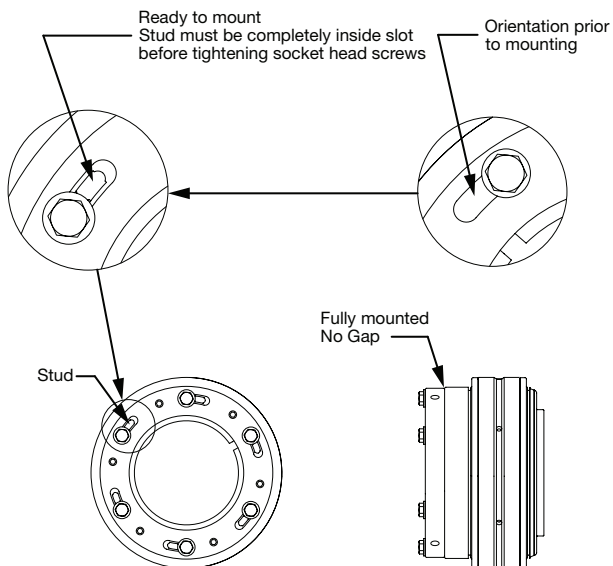
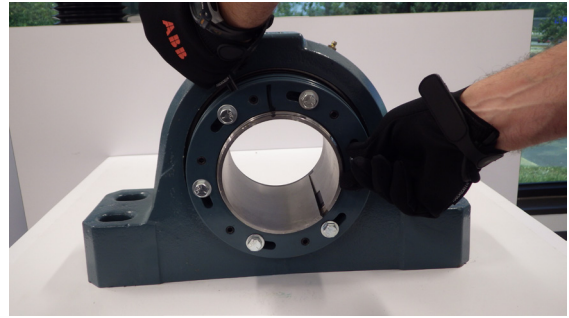

Figure 3 - Nut rotated and ready for installation
Figure 4 - Holding external nut with rod and rotating internal nut C-Clockwise using hex head cap screw
5. Loosen but do not remove the hex head cap screws. Use 9mm rod to hold external nut in position when loosening the hex head cap screws. While holding the external nut with a 9mm rod, grasp one of the hex head cap screws, and rotate the internal nut counter clockwise to shoulder the hex head screws as shown in Figure 3. See Figure 4 demonstrating this step. **If the external nut moves during this step, it is imperative to reposition the nut assembly so that the external nut is positioned with the alignment mark made in step 4 before proceeding to the next step. Make sure the spacing stud is visible in the slot as shown in Figure 3, or the nut will not install correctly.**
6. At this point the machined studs used to create the gap have been positioned inside the elongated slots, and the two nuts can be pulled together, which installs the bearing on the shaft. **If the external nut moves during this step, it is imperative to reposition the nut assembly so that the external nut is positioned with the alignment mark made in Step 4 before proceeding to the next step.** Gradually tighten the hex head cap screw in a star pattern until the external nut firmly seats against the internal nut and the gap is completely closed as shown in Figure 3.